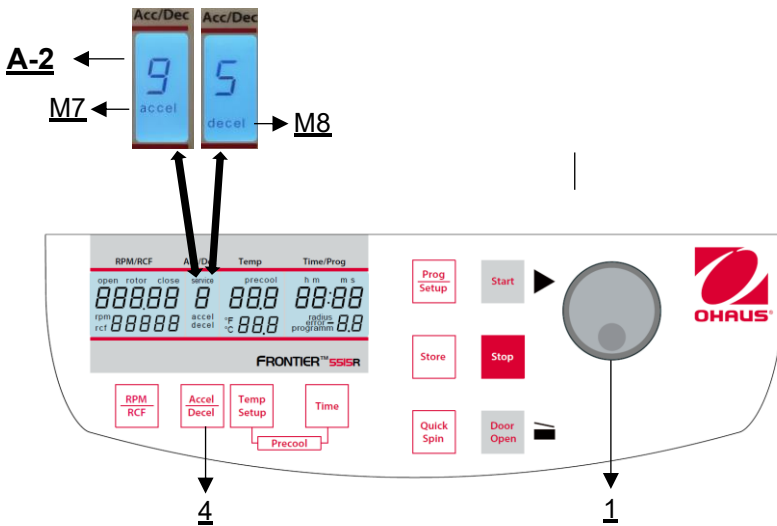

Figure 17
This function is activated through the key **"Accel/Decel"** (4) (see **Figure 17**).